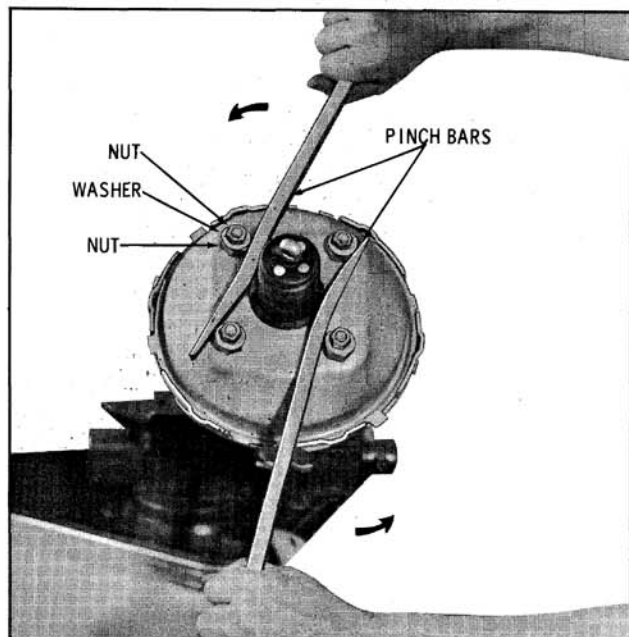

Fig. 11-31 Separating Housing (without a Mounting Bracket)
3. Rotate the rear housing counterclockwise to separate the two housings. If the rear housing cannot be readily loosened, tap the rear housing lightly with a plastic hammer. (Fig. 11-31 or 11-32)